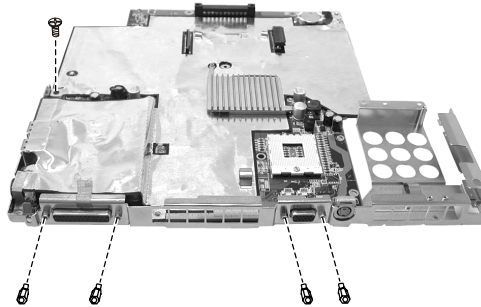

Figure 2-24 Remove the system board
6. Remove four hex nuts fastening the system board on the rear side of the system board and one screw on the top of the system board. Carefully separate the system board from IO bracket. (Figure 2-24)